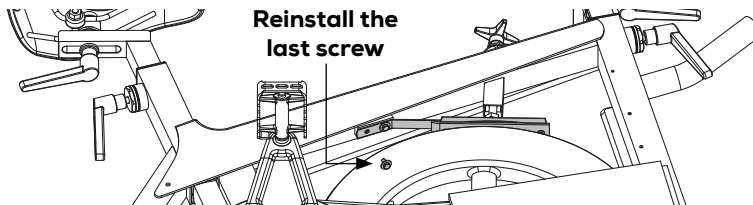

Figure 21
6) Fasten the remaining screw furthest away from the block, and then make sure that both screws are tightened properly, see figure 21.